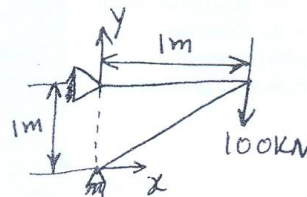

Fig. Q3(a)
- 3 a. For the truss element shown in Fig. Q3(a), determine the nodal displacement and stress in each member. Take $E = 210 \text{ GPa}$, $A = 0.01 \text{ m}^2$. (10 Marks)
- b. A bar is loaded as shown in Fig. Q3(b), $E = 2 \times 10^5 \text{ N/mm}^2$ using penalty method of boundary conditions find :